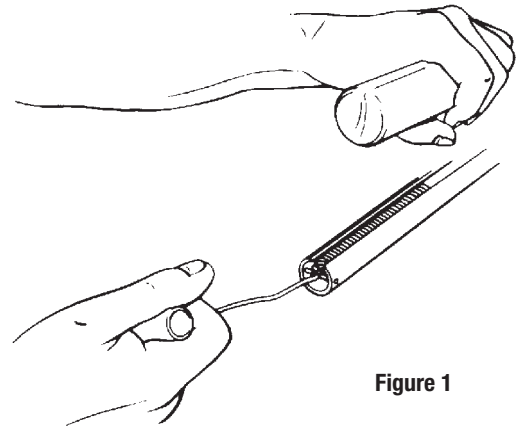

Figure 1
1. Clamp the long handle (31) into a vise with the short handle (53) parallel to the floor and with the head pointing away from you.
2. Remove the rubber grip (43).
3. Unhook the spring (39) from the pin (40) in the short handle (53) (see Figure 1).
4. Loosen nut (20) from bolt (19) using 7/16" wrenches.
5. Remove bolt and snubber (16).
7. Unhook two closing springs (15).
8. Remove bolt (19) and nut (20) and snubber (16).
11. Remove retaining ring (54) from sprocket pin (51).
12. Remove sprocket pin (51).
13. Remove 2 side plates (55), sprocket (56), washer (57), pin (23), detent pawl (28), and spring (36).